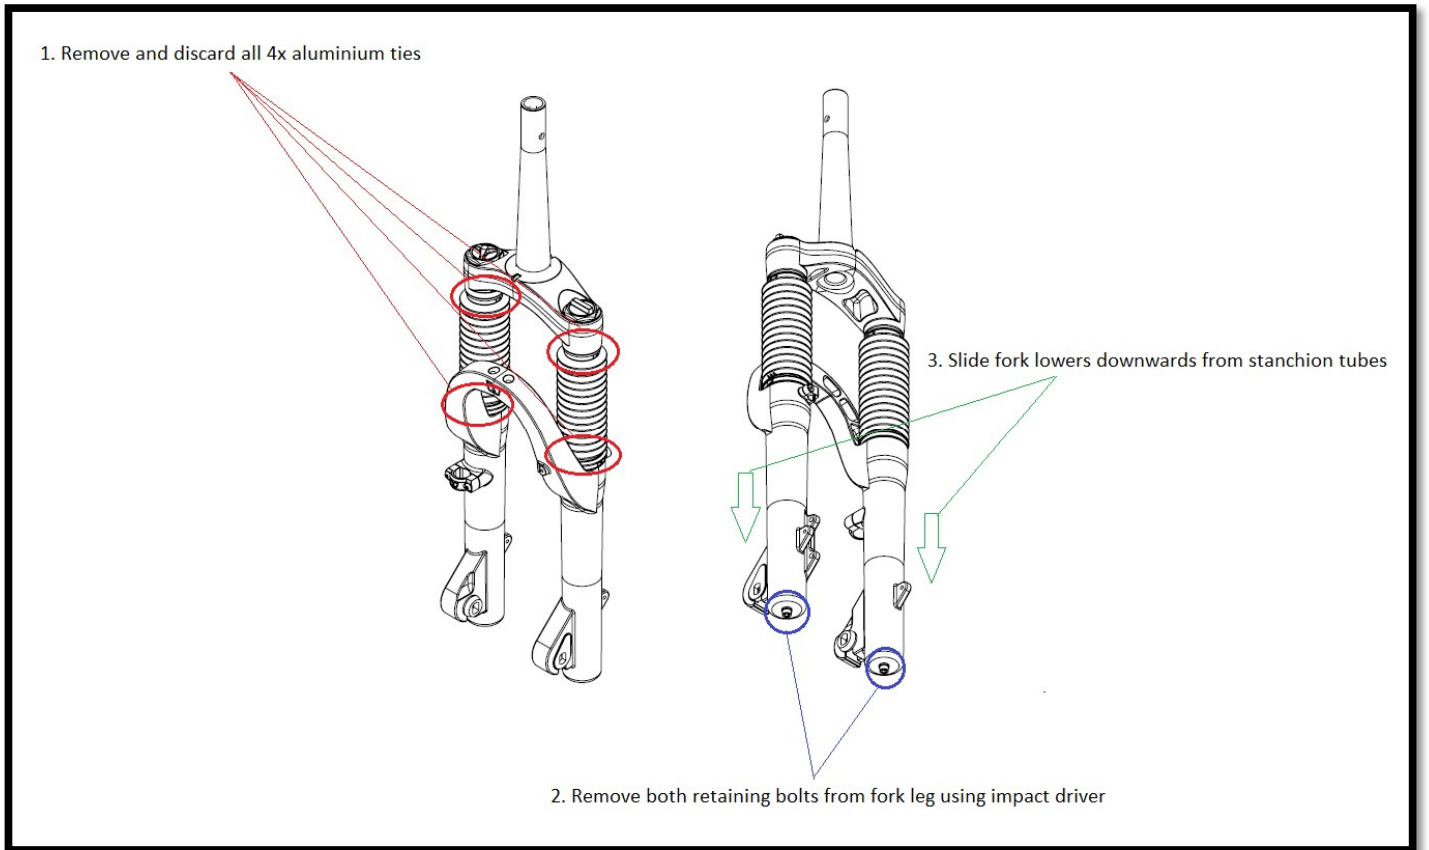

Figure 1
6. Cut the four steel cable ties and remove (make note on how they are fitted at the bottom of the fork boot). [Figure 1]
7. Remove both retaining bolts from the bottom of the fork. [Figure 1]
8. Carefully slide off the fork lower. [Figure 1]